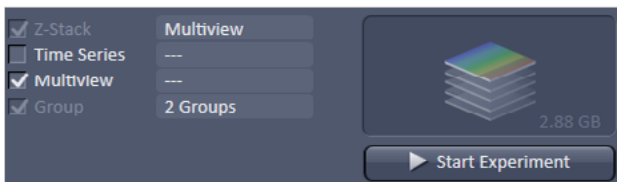

Figure 2 Multidimensional input field
4. Activate the **Multiview** checkbox in the **Multidimensional input field** (Fig.2). This will activate the Z-Stack and Group function at the same time. The Z-Stack and Group option cannot be deactivated individually, and are greyed out.